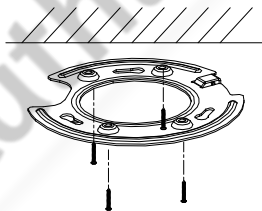

Figure 2-43 Fix the Base Plate
4. Insert four PM4×10 screws into the ceiling and fix the base plate, as shown in Figure 2-43. Make sure the FRONT arrow of the base plate is of the same direction as the arrow of the drill template.